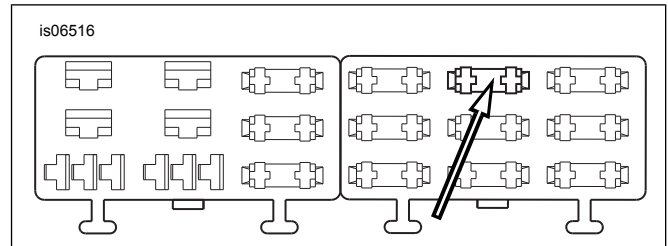

Figure 26. "P&A IGN" Fuse Block Cavity (2004-2010 Softail)
4. See Figure 26. Locate the fuse cavity indicated as "P&A IGN" on the fuse block cover in the right fuse block. Insert the terminal on the orange/white adapter wire until it stops. Refer to a nearby factory installed terminal for comparison to verify proper orientation and depth.